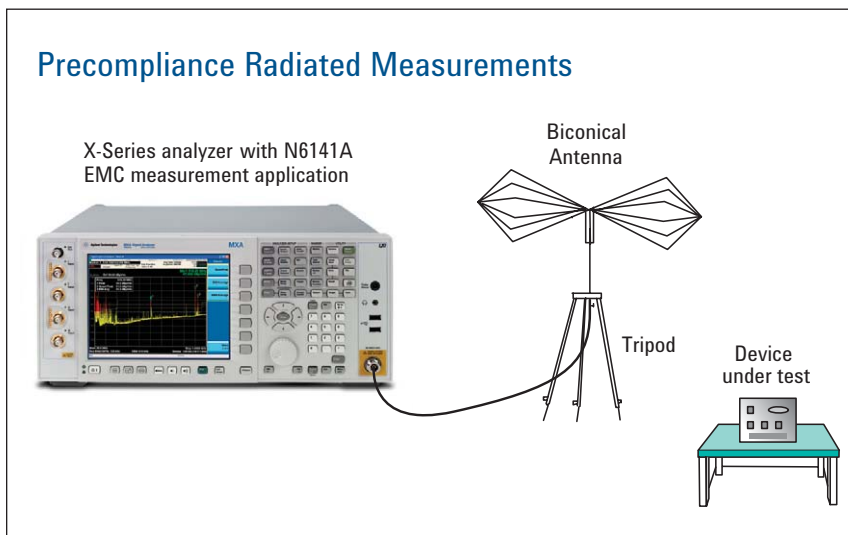

Figure 10. Radiated emissions test setup
1. Arrange the antenna, DUT and signal analyzer as shown in Figure 10. Separate the antenna and the EUT as specified by the regulator agency requirements. If space is limited, then the antenna can be moved closer to the DUT and you can edit the limits to reflect the new position. For example, if the antenna is moved from 10 meters to 3 meters, then the amplitude must be adjusted by 10.45 dB. It is important that the antenna is not placed in the near field of the radiating device which is  $\lambda/2\pi$  or 15.9 MHz for 3 meters. Most commercial radiated emissions start at 30 MHz.